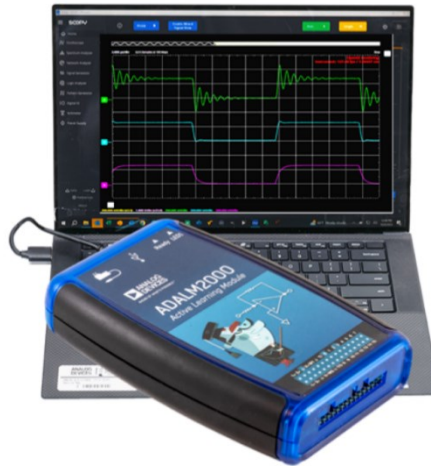

Figure 9. Connecting the ADALM2000 to the Computer
- a. Physically connect the ADALM2000 to the user computer's USB port using a USB-A to Micro-USB cable (see Figure 9).